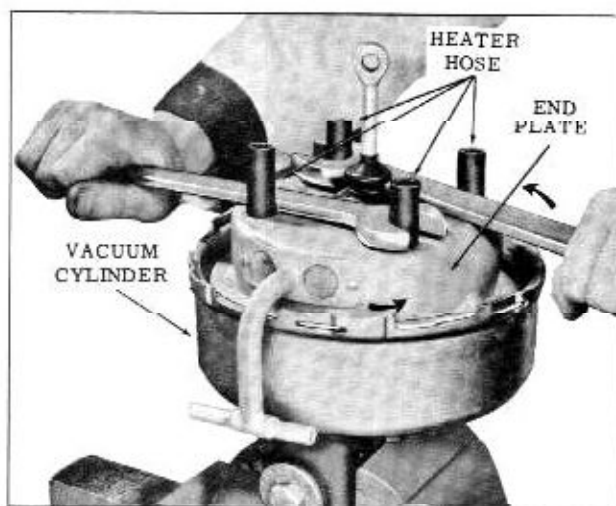

Fig. 7-21 Removing Vacuum Cylinder End Plate
3. Using two wrenches, rotate end plate counter-clockwise to separate end plate from vacuum cylinder. (Fig. 7-21) If end plate cannot be readily loosened, tap the lugs lightly with a punch and hammer.